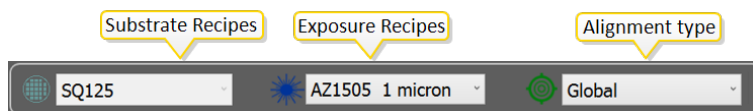

Figure 3-48 Quick selection bar
2. Select alignment type **Global** in the quick selection bar, see **Figure 3-48 below**.